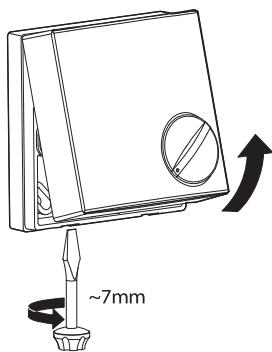

FIGURE 14: Lid
3. Use a screw driver to remove the lid from the humidistat. "FIGURE 14: Lid".